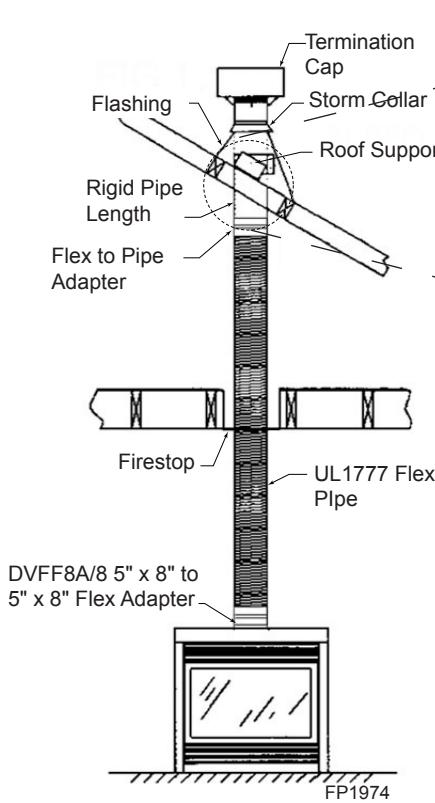

Figure 38 -
2. Install firestop spacers, *Figure 38*, when penetrating ceiling, attic spaces, or walls.
4. Use only listed and approved terminations and accessories, installed per the installation instructions and *Figure 38*.